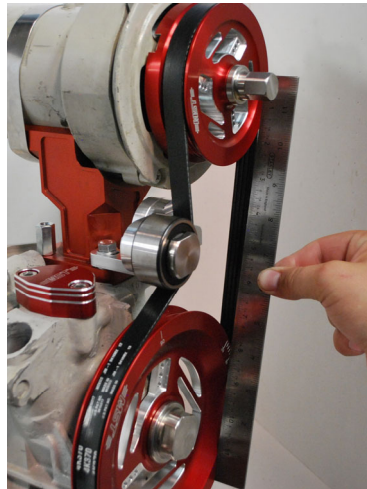

Figure 2.0 (Face Alignment)
Step 6: Slide the generator pulley into position on the generator shaft following the same procedure as the crank pulley installation and make sure that it is pushed all the way in. Use a straight edge (*See Figure 2.0*) and lay across the outer most faces of the crank pulley and generator pulley to check alignment of pulleys together. A maximum of (1mm) deviation in the alignment of the pulleys is recommended. Misalignment of the pulleys greater than 1mm may result in the belt tracking improperly and the unit may not function properly. It may be necessary to either add shims to one of the pulleys to improve alignment or to loosen the fan shroud assembly and shuttle forward or backward to assist in the alignment. Please refer to the vehicle engine manual for this step.